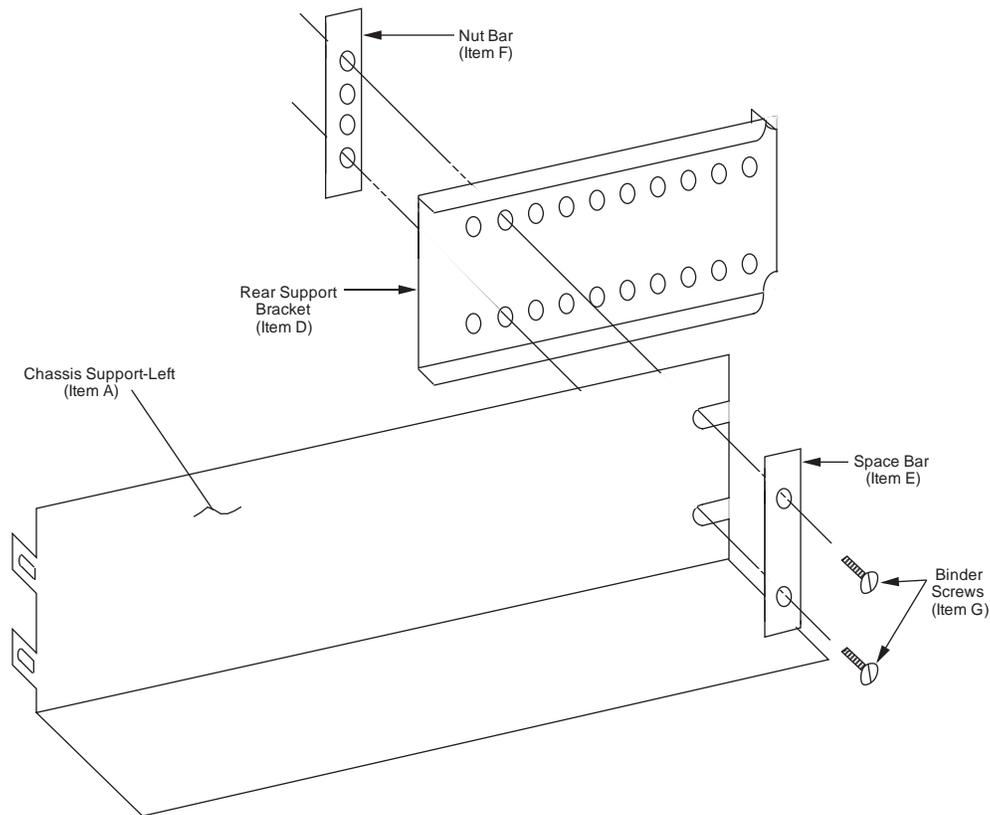

Figure 7-4
- Use a spacer bar, nut bar, and two binder head screws (items E, F, and G) to loosely attach each rear support bracket to a chassis support. Figure 7-4 shows the left side support.